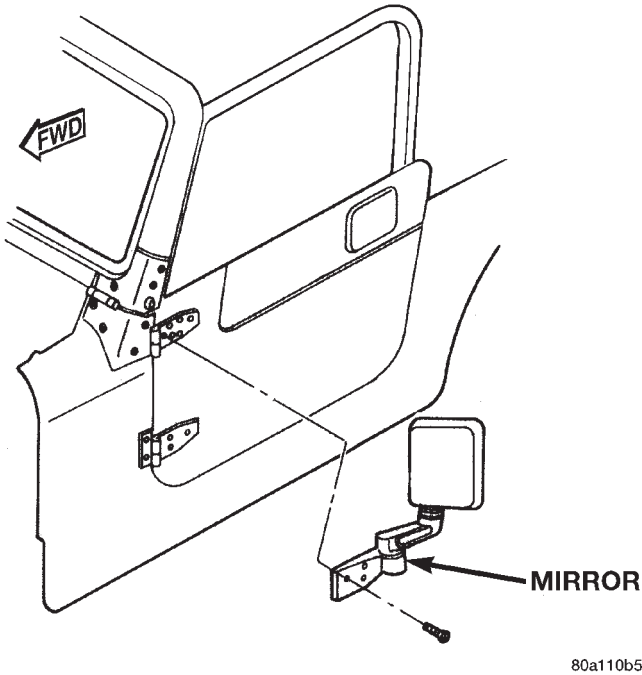

Fig. 11 Side View Mirror
- (1) Remove the screws attaching the mirror to the door hinge (Fig. 11).
- (2) Remove the mirror from the door hinge.